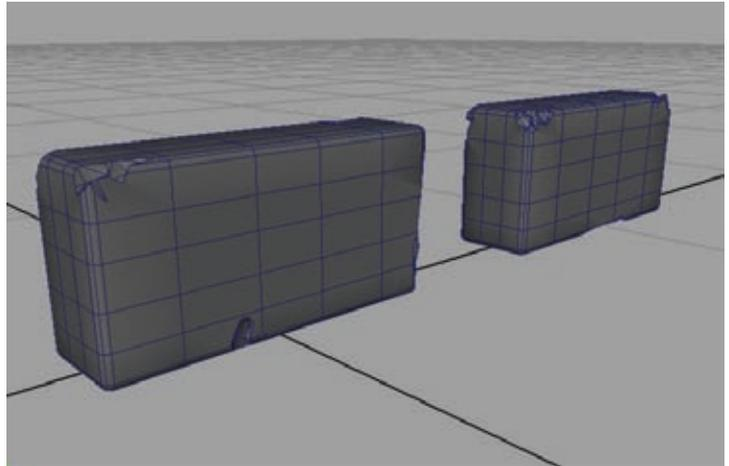

Figure 1.7
If, when you are done, you find that you would like more chipped-away parts or that some of your rocks were intersecting the bricks too deeply and too much brick has been carved away, undo (Z) and readjust them until you get a result you like. Eventually, you should get a result similar to Figure 1.7. With these three bricks, you'll have enough variation that your brick wall shouldn't look too repetitive or boring.